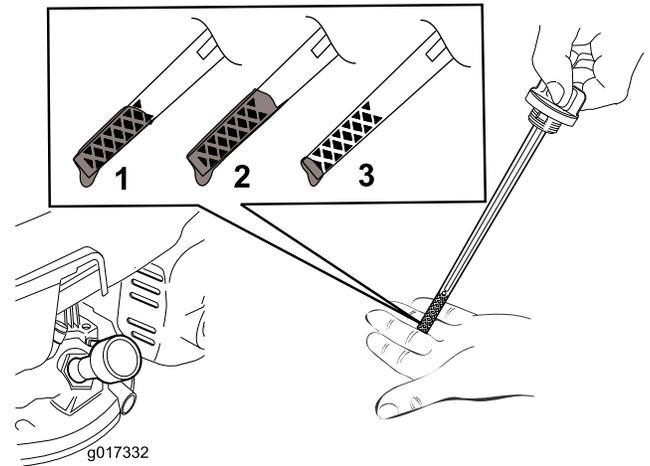

Figure 11
5. To determine the proper oil level on the dipstick, refer to Figure 11).
Note: Fill the engine crankcase with oil until the dipstick indicates that the engine oil level is correct as shown in Figure 11. If you overfill the engine with oil, remove the excess oil as directed in Changing the Engine Oil.